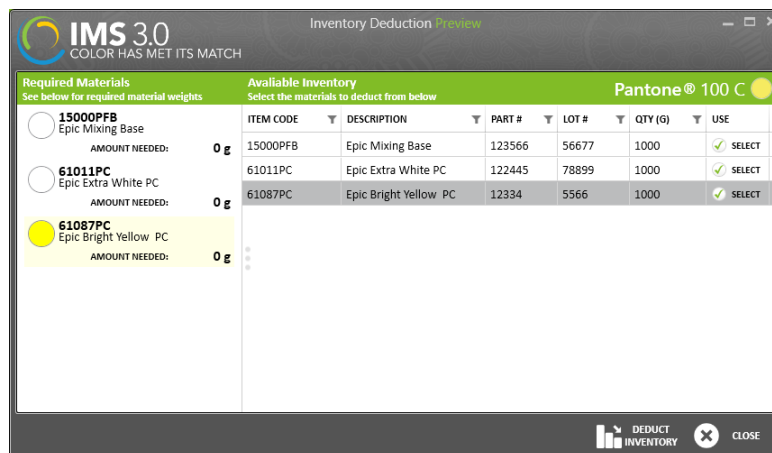

Figure 32 Available Inventory selected and ready to “Deduct Inventory”
6. Continue to “SELECT” checkboxes for each required ingredient in your formula. (Figure 32)